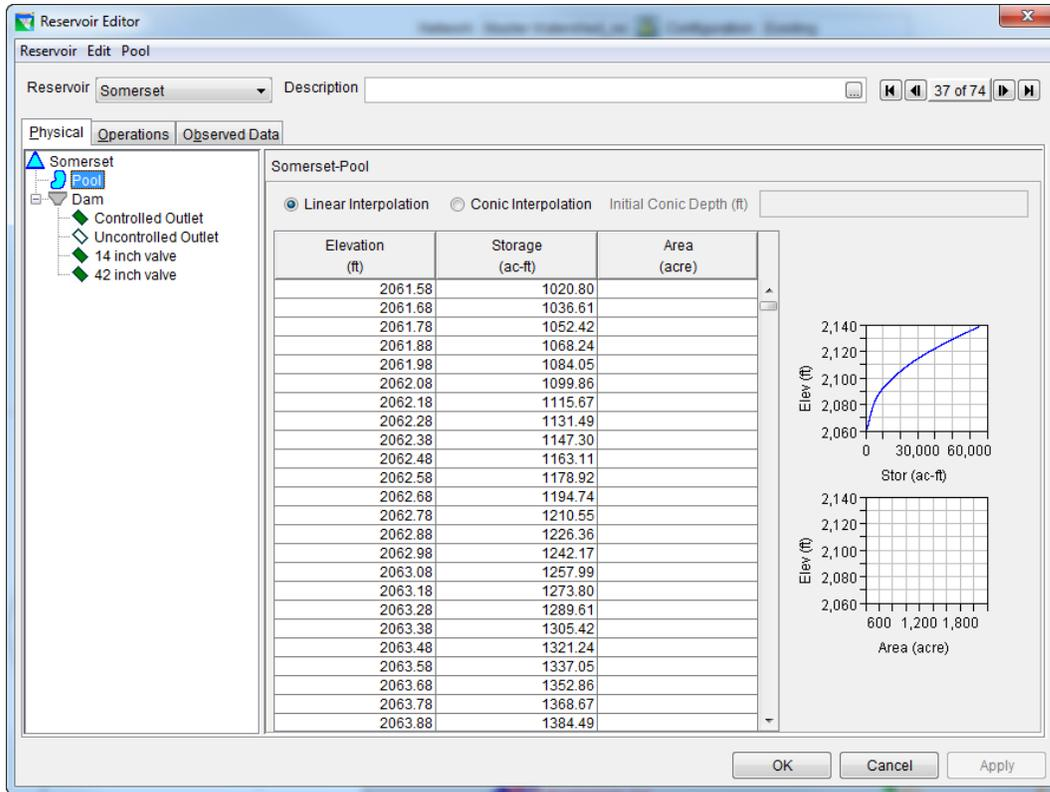

Figure 3: Reservoir Editor: Physical Tab -- Pool
The physical characteristics of the reservoir are separated between the Pool and the Dam in the HEC-ResSim model. The elevation-storage-area defines the pool as shown in Figure 392. The dam consists of four types of outlets: (1) controlled outlet, (2) uncontrolled outlet, (3) 14 inch valve, and (4) 42 inch valve as shown in Figure 4.